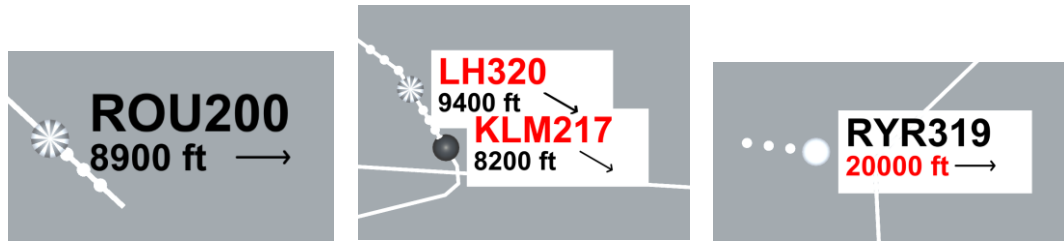

Figure 5: left: Airplane label; middle: Loss of Separation; right: Level bust;
6.1.1 Airplane label (see Figure 5 left)
- **Loss of separation:** If a loss of separation (two aircraft will fall below the minimum distance) between two airplanes occurs, both airplane labels change their colour to red and will have a white background (see Figure 5 middle). The threshold can be defined in the configuration file (see 9.1).
- **Level bust:** If a level bust occurs (aircrafts falls below or above the cleared height), the airplane label changes its colour to red and will have a white background (see Figure 5 right). The threshold can be defined in the configuration file (see 9.1).